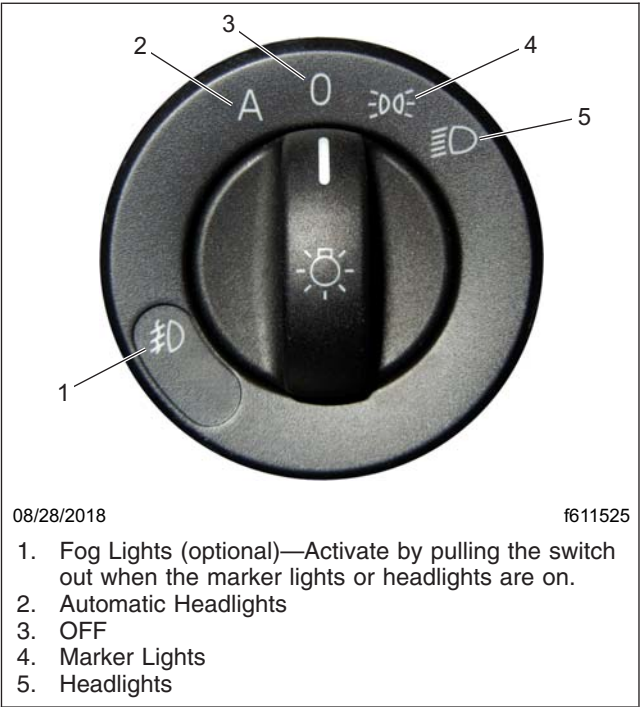

Fig. 4.5, Headlight Switch
Fog lights are designed to reduce glare in foggy conditions. The low-beam headlights must be on in order to turn the fog lights on. Pull the headlight switch out to activate the fog lights. See item 1 in Fig. 4.5.
The headlight switch is a rotary switch located to the left of the steering column, above the ignition switch. See Fig. 4.5.
Marker lights function as auxiliary safety lights. To turn the marker lights on, turn the headlight switch clockwise past the off position. See Fig. 4.5.